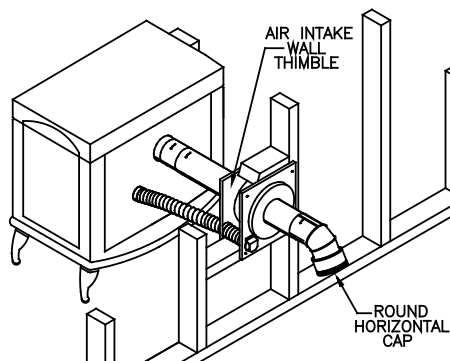

Figure 13
of the stove with clamp provided. Only connect metal flex to the appliance; do not substitute or install plastic flex. The cover plate comes installed on the lower left corner of the thimble with intake guard pointing downward to deflect rain. If it is desired to rotate thimble and air inlet to another corner, remove the (2) screws on the inlet guard and re-attach over air inlet at new location. Secure black interior half of the Wall Thimble to the interior wall, and the unpainted exterior half are to be secured to the exterior wall on both styles of thimbles (**Figure 13**). The Wall Thimbles adjust to fit walls from 4"-8" thick. For installation in thicker walls an extension tube may be field fabricated.
**5.** If the flue exit is on back of the stove, and a horizontal through-the-wall installation is desired (**Figure 13**):